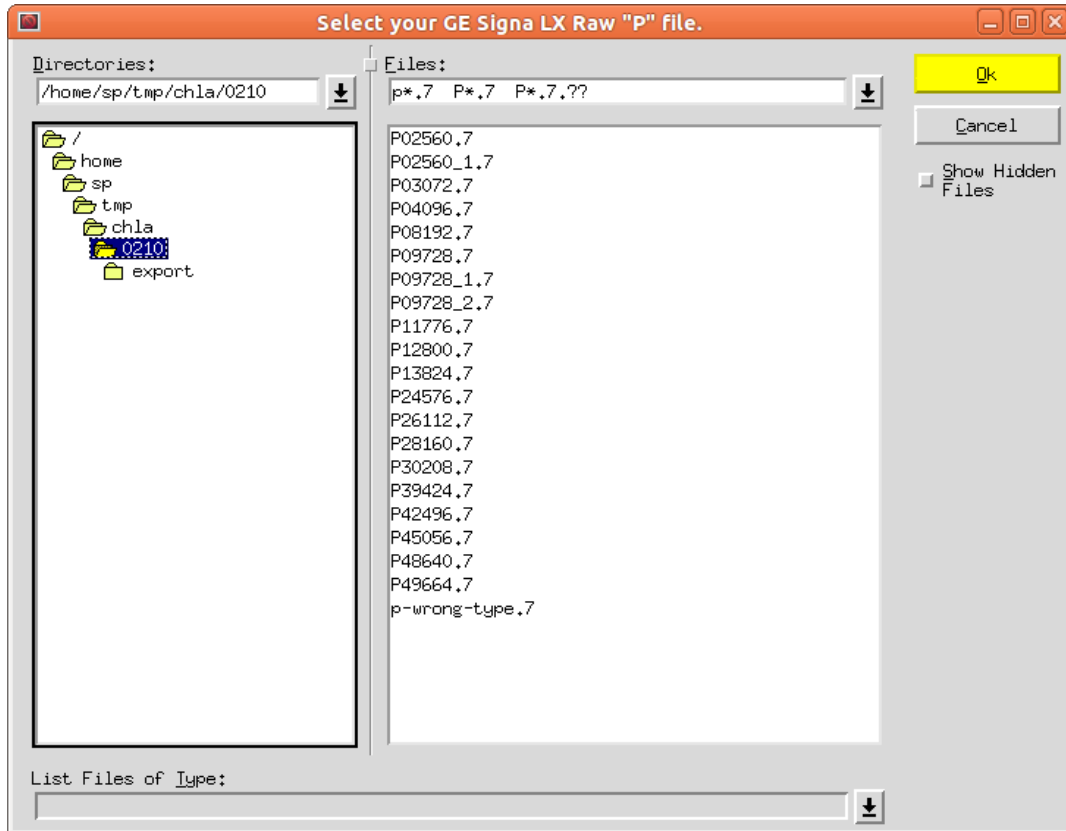
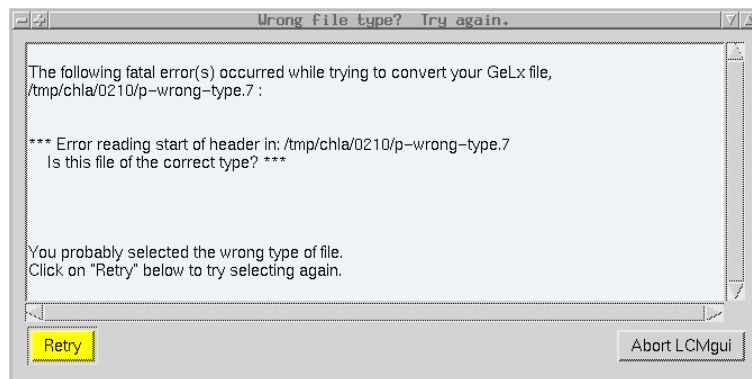
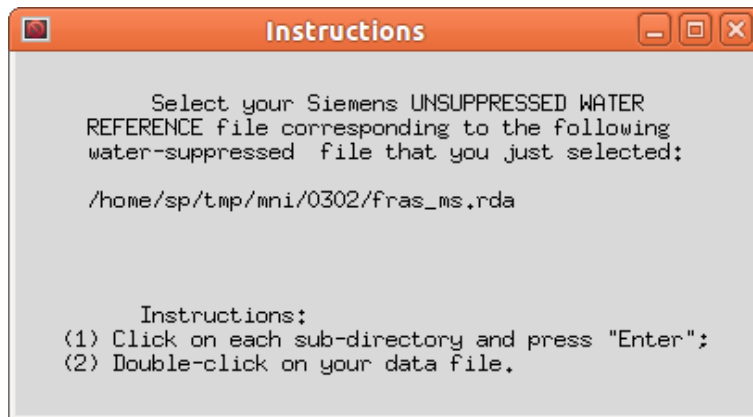

Figure 6.1: The File Selector, shown here for GE LX files
Figure 6.2: You selected a file of the wrong type in the File Selector
Figure 6.5: The instructions-part of the File Selector for the unsuppressed water reference.
- Select the file containing the data to be analyzed (Fig 6.1 in Sec 6.2.1).
When LCMgui is started, the first window that appears is usually the *File Selector*. An example with GE Signa LX data is shown in Fig 6.1. With data from other manufacturers, the title, “Select your GE Signa LX ...” will be different. LCMgui remembers the directory where the data file was in the last run, and the File Selector starts there.
You first navigate through the directory tree. When you click on a directory, its files are listed in the right pane (the stage shown in Fig 6.1). You then click on the filename that you want to use and click the yellow “OK” button at the right (or simply double-click on the filename).
Only filenames that match the filter shown at the top of the pane of filenames (p*.7, P*.7 or P*.7.??) in Fig 6.1) are displayed. If your filename differs from this standard (e.g., if you analyzed GE Signa 5.x data last time and LX data this time), then it will not be listed. You can change
If the filenames or directories in Fig 6.1 are so long that they are cut off, then the width of the panes can be adjusted by holding the left mouse button down on the small square at the top on the pane boundary (between “**Directories:**” and “**Files:**”) and dragging the pane boundary. (You can also simply use the scroll bar that appears at the bottom of the pane when names are too long.)
LCMgui remembers what type of data was analyzed from this account and User Profile the last time, and it expects the same type this time. You therefore get a window like Fig 6.2 if in the File Selector you:
- Select a completely irrelevant file (e.g., `p-wrong-type.7` in Fig 6.1 to produce Fig 6.2).
Otherwise, click the yellow “Retry” button in Fig 6.2. A window like Fig 6.3 appears. Here you click on the appropriate type of data. The File Selector then returns, giving you another chance to select your data file.
Select unsuppressed water reference file If the “Do eddy-current correction” button is active (blue), the File Selector window appears (unless you have Marconi/Picker files or GE Probe P-files, which already contain the water reference). It is exactly as in Fig 6.1, except for the window of instructions at the upper left (Fig 6.5). As you can see from Fig 6.5, the filename of your currently selected water-suppressed data is shown, and you must select the corresponding unsuppressed data file.
- (1) **File Selector.** You select the file containing your (binary scanner) data to be analyzed with the window in Fig 6.1.
- (2) **Data Conversion.** A program is executed to produce the LCModel `.RAW` file and any available Control Parameters (e.g., `NUNFIL`, `DELTAT`) from the file selected in Step (1). You can specify this program to be the standard LCMgui program for the standard Bruker, GE, Marconi/Picker, Philips, Siemens, Toshiba or Varian files (Sec 3.7). However, there is also an “Other” button to use a script supplied by you for another type of file.
- (3) **Preprocessor.** Even if you specify one of the standard programs for Step (2), you can still supply your own script in this step to modify the `.RAW` file or Control Parameters from Step (2). (The original default, when LCMgui is installed, is to use no Preprocessor.)